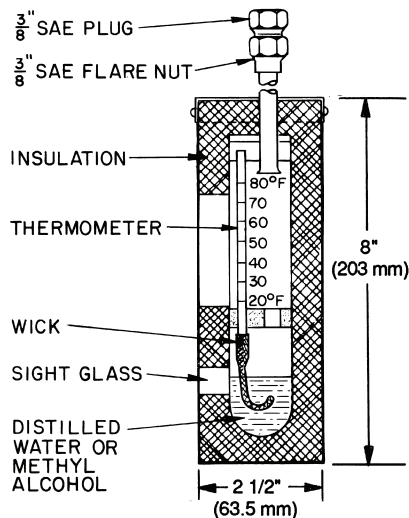

Fig. 31 — Typical Wet-Bulb Type Vacuum Indicator
- absolute pressure manometer or wet-bulb vacuum indicator (see Fig. 31)